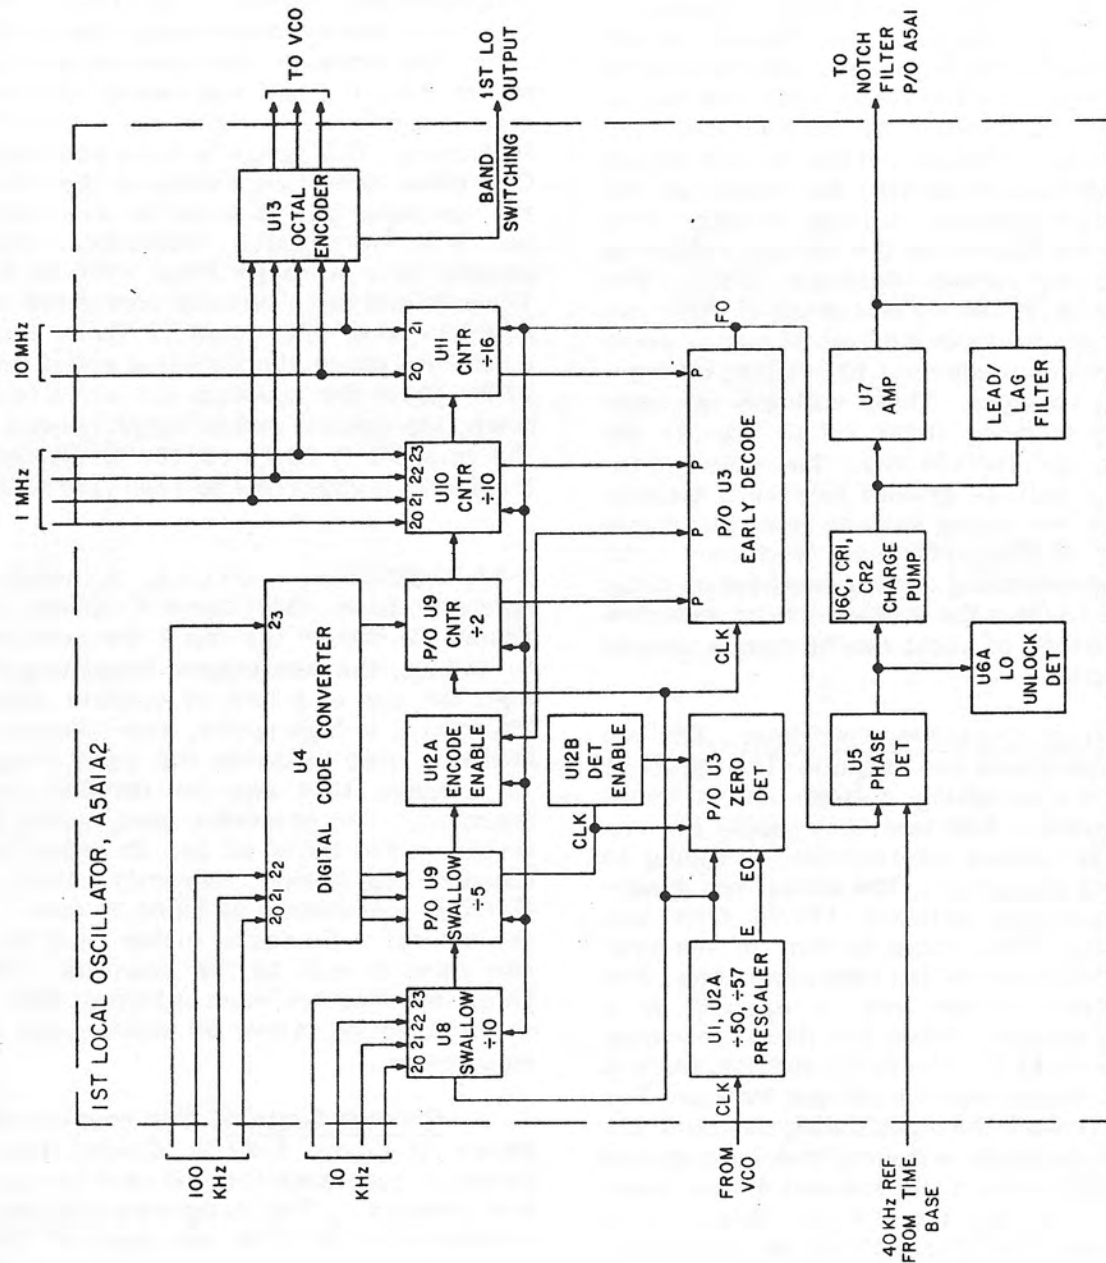

Figure 3-20. 1st Lo Synthesizer Digital IC Diagram
3-36. 1st LO SYNTHESIZER (A5A1A2). The 1st lo frequency synthesizer circuits are part of the 1st and 3rd lo synthesizer. The 1st lo utilizes a phase lock loop configuration with the prescaling technique shown in figure 3-10. The output of the 1st lo tunes in 10 kHz steps from 42.91 MHz to 72.90 MHz. This tuning range mixes with the 0.0 to 29.99 MHz receiver tuning range to produce a 1st if. signal in the range of 42.90 to 42.91 MHz. A digital ic diagram of the 1st lo is shown in figure 3-20. The programmable divider, phase detector, and lead-lag filter of the 1st lo Synthesizer are contained on the main circuit board, the vco and tuning voltage control circuits are mounted separately, but together with the main circuit board, they form a combined
a. Counter Section. The counter section shown in figure 3-20 is divided into two parts: a programmable counter and a swallow counter. The programmable counter consists of U11, U10, and part of U9, and the swallow counter consists of U8 and part of U9. Both counters receive the same clock pulse from the prescaler output. By having the swallow counter control the